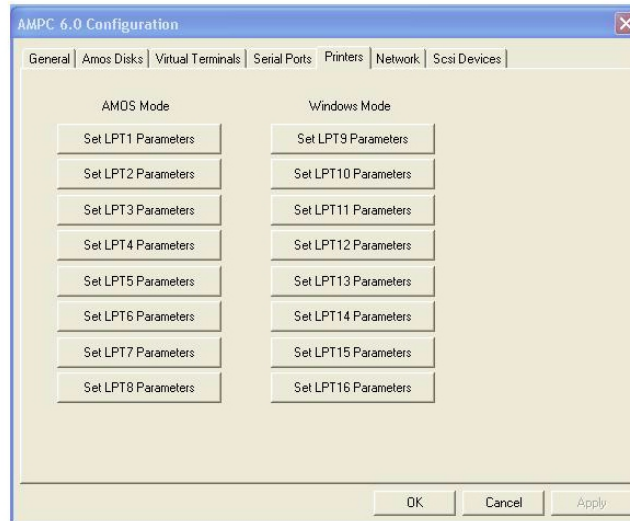

Figure 5 – Printers tab
- Clicking on the Printers tab, you can define up to sixteen printers to the AMOS system as shown in Figure 5. All printers must be installed as Windows printers prior to setting them up for use under AMOS. See the section, *Adding A Printer*, later in this document.